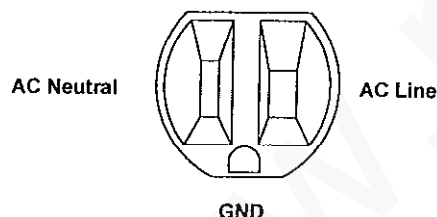
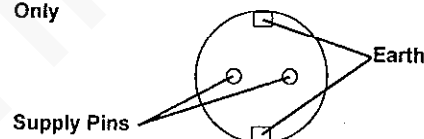

Figure 1 USO and XLA (115 VAC)
Figure 4 XLA (220 VAC)
- Check that the correct voltage is being supplied at the outlet (Table 1 and Figure 1 through Figure 4).